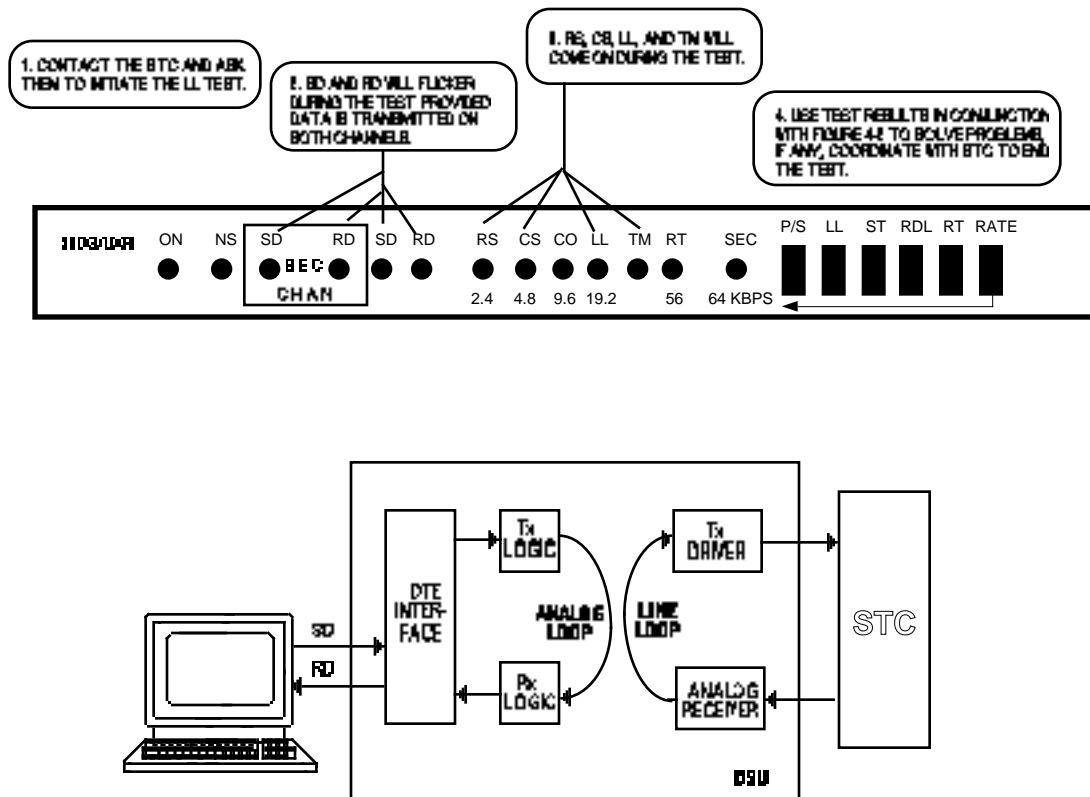

FIGURE 4-16. LINE LOOPBACK TEST, STC CONTROLLED
The Line Loopback (LL) test is a remotely controlled diagnostic, initiated by a serving test center (STC), that reverses the polarity of the sealing current. When the DataComm 500G/UXR DSU detects the reversed current, the DSU transmitter output and receiver input are disconnected from the communications line and connected together (similar to analog loopback); and the disconnected transmitter and receiver communications lines are connected together to create a circuit (the Line Loopback circuit) that loops received signals back over the communications line to the originating station. (Figure 4-16 illustrates LL.)